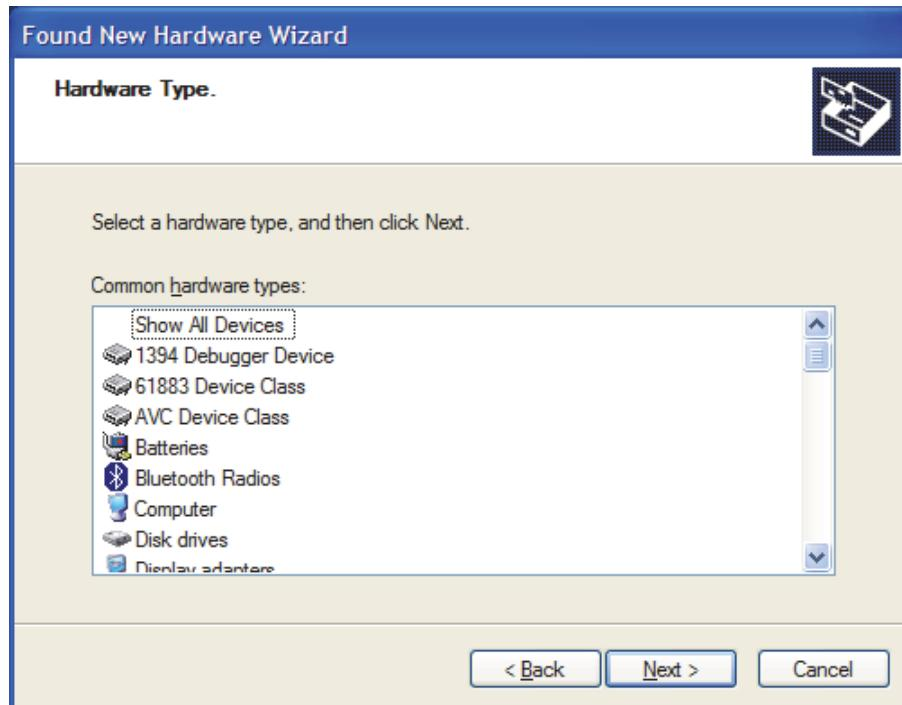

Figure 5-8. Found New Hardware Wizard - Common Hardware Types
5. In the **Common hardware types** field, select **Next**. See Figure 5-8.